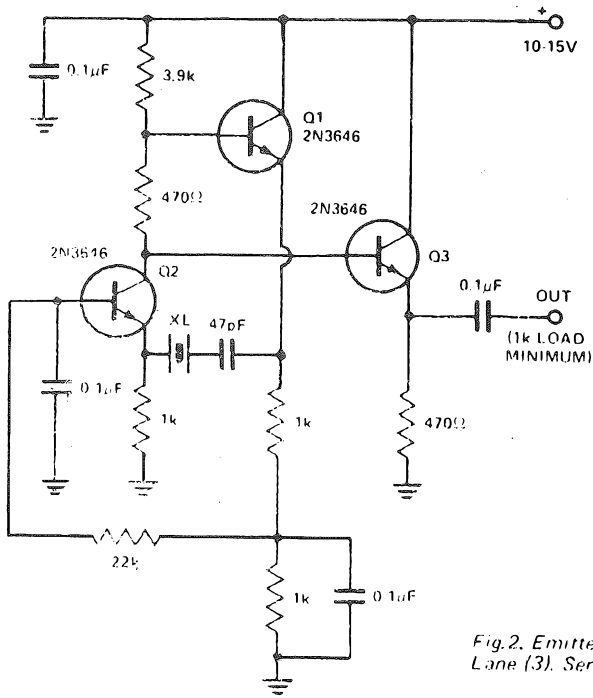
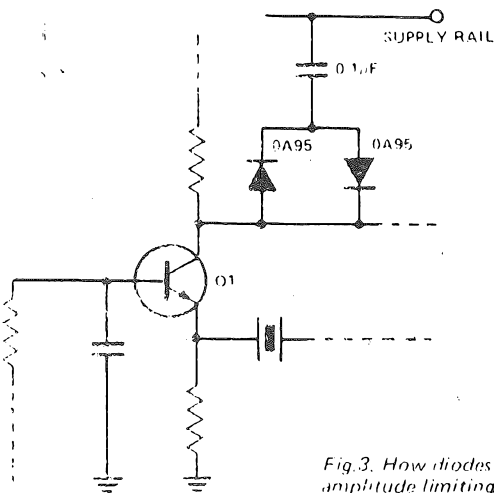

Fig. 2. Emitter-coupled oscillator — after Lane (3). Series mode.
Fig. 3. How diodes are used for amplitude limiting.
Versions have subsequently been published in the 'VK5 Bulletin' (S.A. Div. WIA) in 1972 and 6UP, August issue, 1974. Lane (3) discusses a variation of this circuit (Fig. 2).
of diodes — as shown in Fig. 3 — is a better method, and starting performance is improved. The circuit will oscillate up to at least 10 MHz with appropriate transistors and emitter resistor values. An emitter follower or source follower buffer is recommended. Similar comments to the above apply to Fig. 2. An emitter follower buffer is included in this circuit. Both circuits are slightly frequency sensitive to power supply voltage changes and load variations. A load of 1 k or greater is recommended.